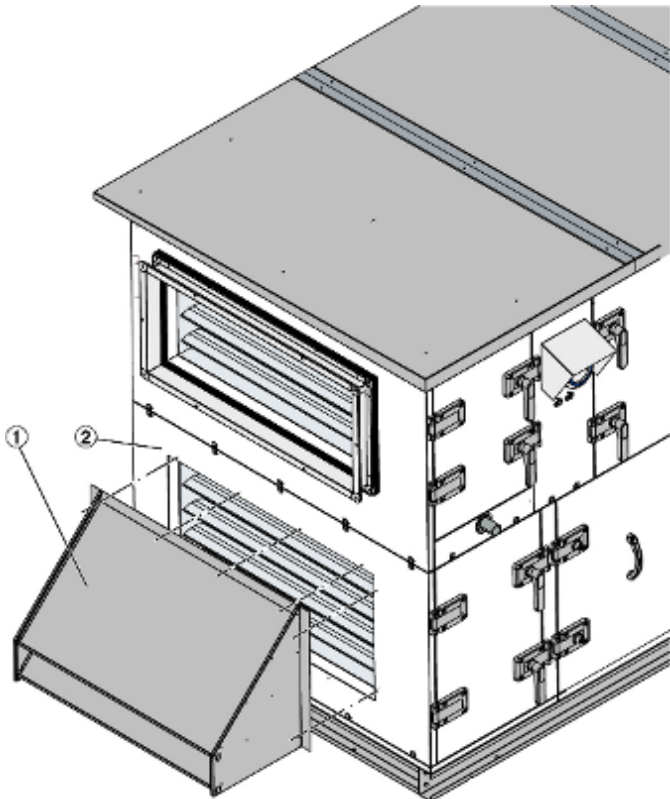

Fig. 23: Positioning the weather hood
- 1 ▶ Position the weather hood (Fig. 23 /2) flush with the hole pattern on the panel (Fig. 23 /1) and screw it in place using button head screws (M6x12).